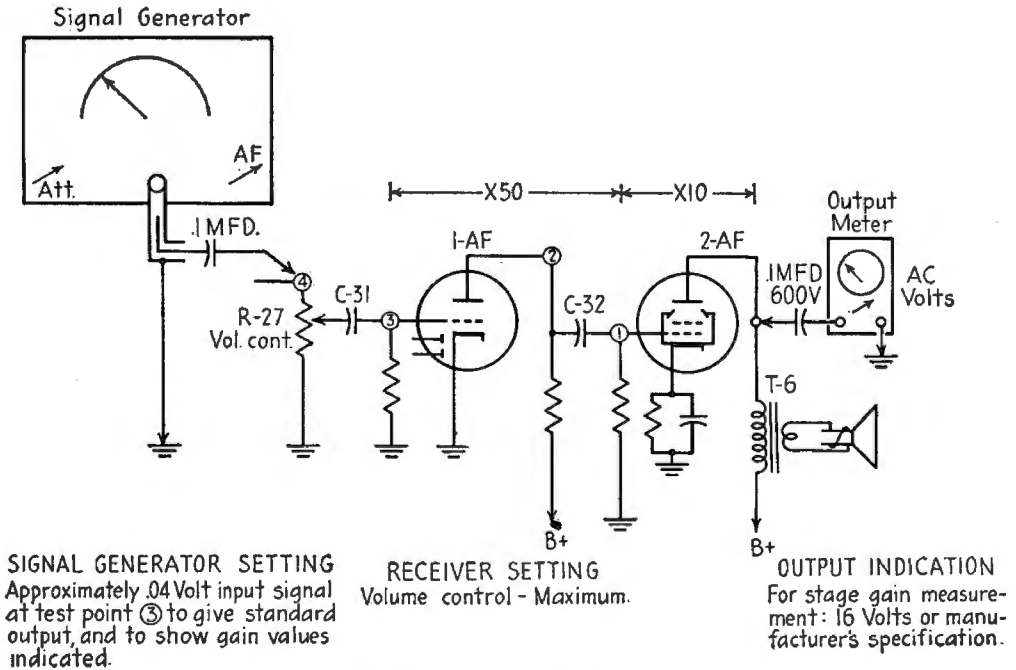

FIG. 11-8.—Audio stage-gain measurements.
Stage-gain Measurements.—Now, having established standard output, let us make some gain checks on a receiver known to be perfect to determine how this information may be used in later servicing. Figure 11-8 shows the audio amplifier of the standard receiver. The output meter and the AF output of the signal generator are connected to make gain checks. The condenser in the hot lead of the signal generator (which may be connected internally) serves to keep DC plate potentials out of the signal generator circuit when the hot
The gain per stage is approximately 50 for the first AF stage and 10 for the second AF stage, as is indicated in Fig. 11-8. Now let us assume our test bench works to a reference level of 20 volts as standard output indication. Then when the hot lead of the signal generator is connected to point ①, the second AF grid, a 2-volt signal will be needed to give standard output from this point, since 2 volts input times 10, the amplification of the stage, equals 20 volts output. It is not necessary to measure the input signal voltage. Accurate stage-gain measurements would call for expensive test equipment and, although this would be of advantage in design engineering, service work to find a poorly operating stage does not require any-